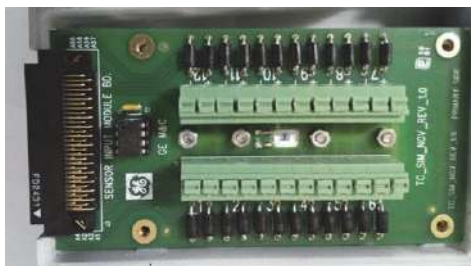

Figure 11: SIM Wiring
1. Loosen the two screws in the top of the module to open a SIM. Figure 11 below displays the inside of a thermocouple SIM.